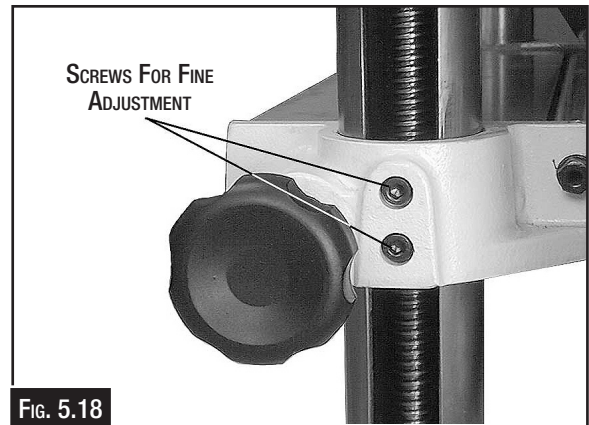

FIG. 5.18
2. Locate the two socket head cap screws in the table casting for each of the columns (Fig. 5.18). Loosen both sets of screws for each column on the side you wish to adjust. (Fig. 5.18)